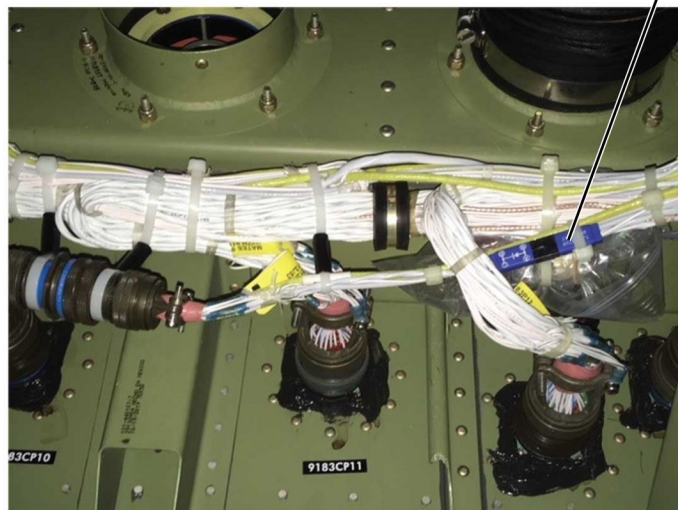

Figure 1. Diode Installation (Sheet 1)
- A. (Refer to Figure 1.) Cut the RT324B22 Wire.